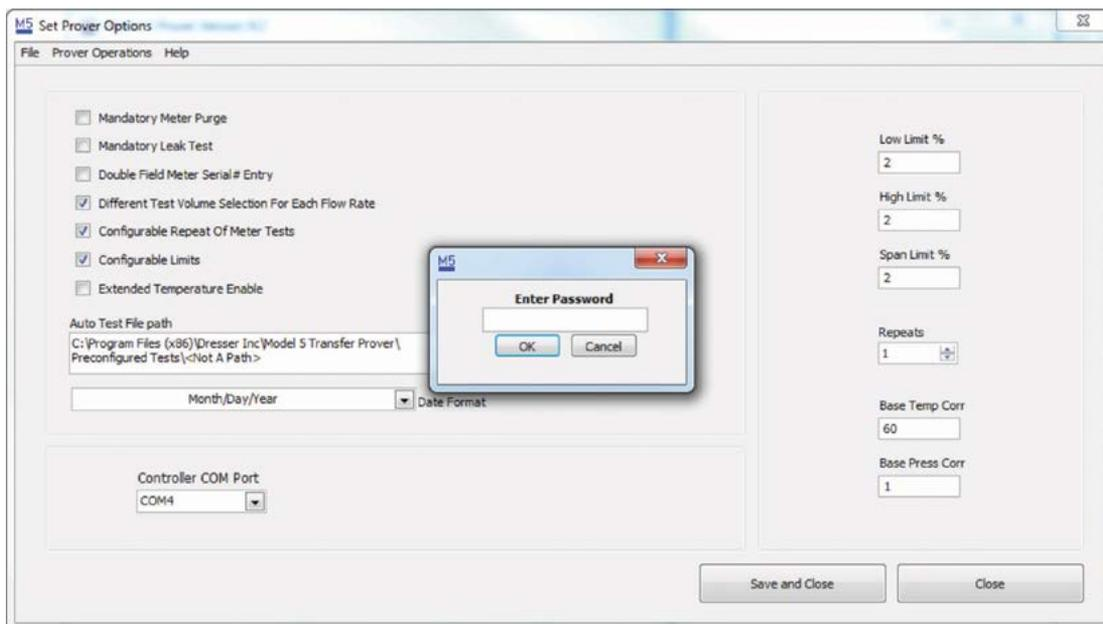

Figure 71: Password Dialogue Box
4. Enter the Level 2 Password of “DRESSER” as shown in **Figure 71**.